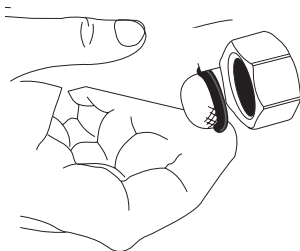

Figure 5-9
5. Verify the filter screen is in the inlet of the water tank. Only applies to the CW3600 unit. See Figure 5-9.